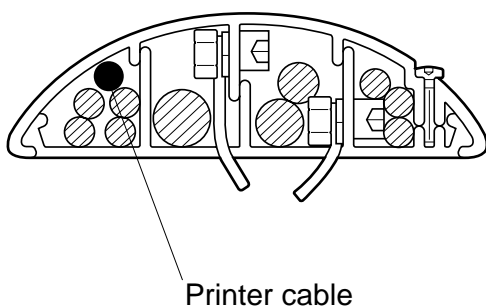
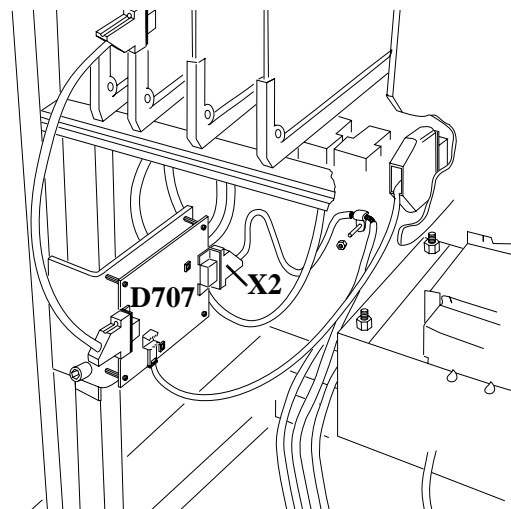

Fig. 3
Fig. 4
1. Lay the printer cable between the generator and the stand in the same cable-duct compartment as the IONTOMAT signal cables, unit-control cable and power-supply cable, see Fig. 3. Ensure sufficient cable length between cable entry and connector X2 on p.c. board D707 in the generator, see Fig. 4.